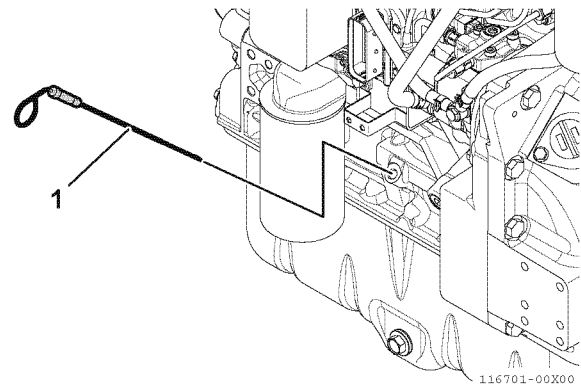

Fig.30-21
6. As necessary, add more lubricating oil until the level is between the upper limit and lower lines on the dipstick (1, Fig.30-21).